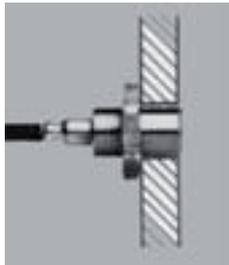

Fig. 12 Example of flush assembly of a shielded sensor in a metal support
- Mount shielded sensors flush in the metal sensor support, see Fig. 12.